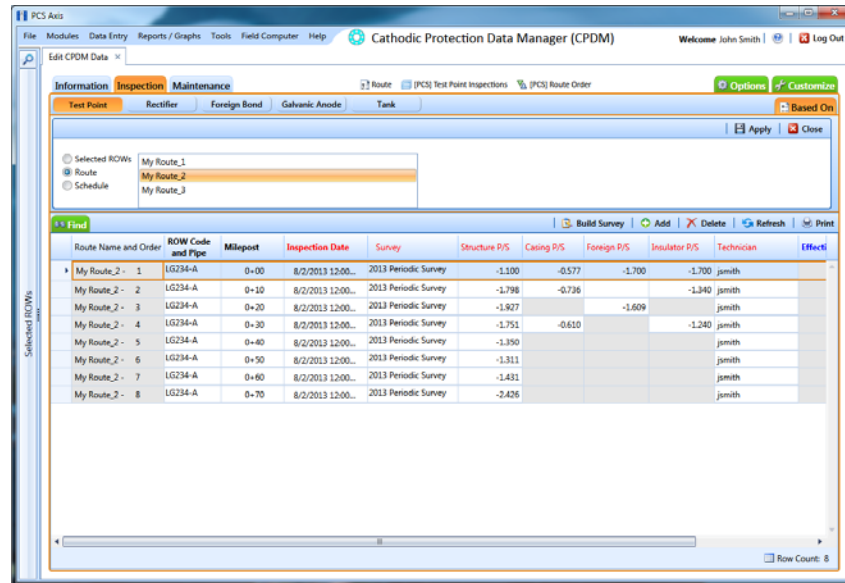

Figure 6-26. Based On Route
- a Click the **Based On** tab  to open the based on panel and then complete the following steps (Figure 6-26):